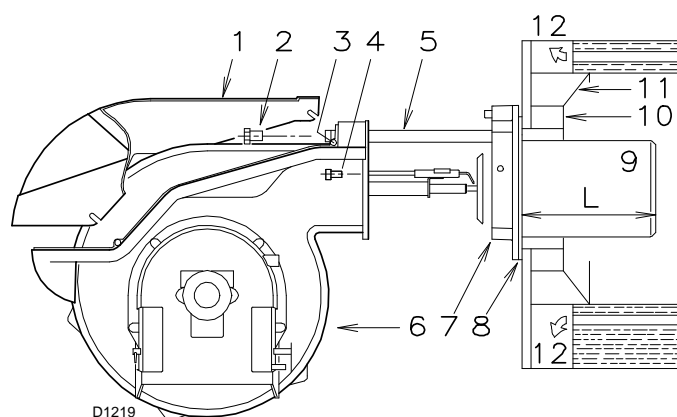

Fig. 8
The length of the blast tube 9)(Fig. 8) must be selected according to the indications provided by the manufacturer of the boiler, and in any case it must be greater than the thickness of the boiler door complete with its fettling.
| Blast tube 9)(Fig. 8) | Short | Long |
For boilers with front flue passes 12)(Fig. 8) or flame inversion chambers, protective fettling in refractory material 10) must be inserted between the boiler fettling 11) and the blast tube 9).
Disassemble the blast tube 9)(Fig. 8) from the burner 6) by proceeding as follows:
Once this operation has been carried out (if it was required), secure flange 7)(Fig. 8) to the boiler plate interposing the supplied gasket 8).
- retract the burner on its slide bars as shown in Fig. 8 at page 15);